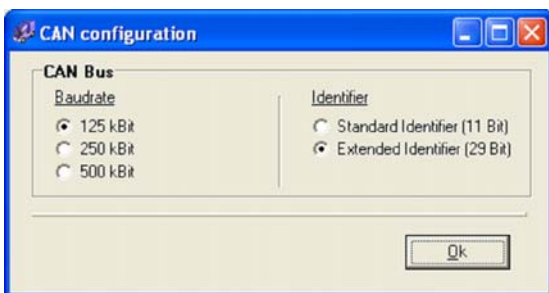

Fig. 5 Dialog for the CAN configuration
- Click the button to open the CAN configuration dialog (see fig. 5) .